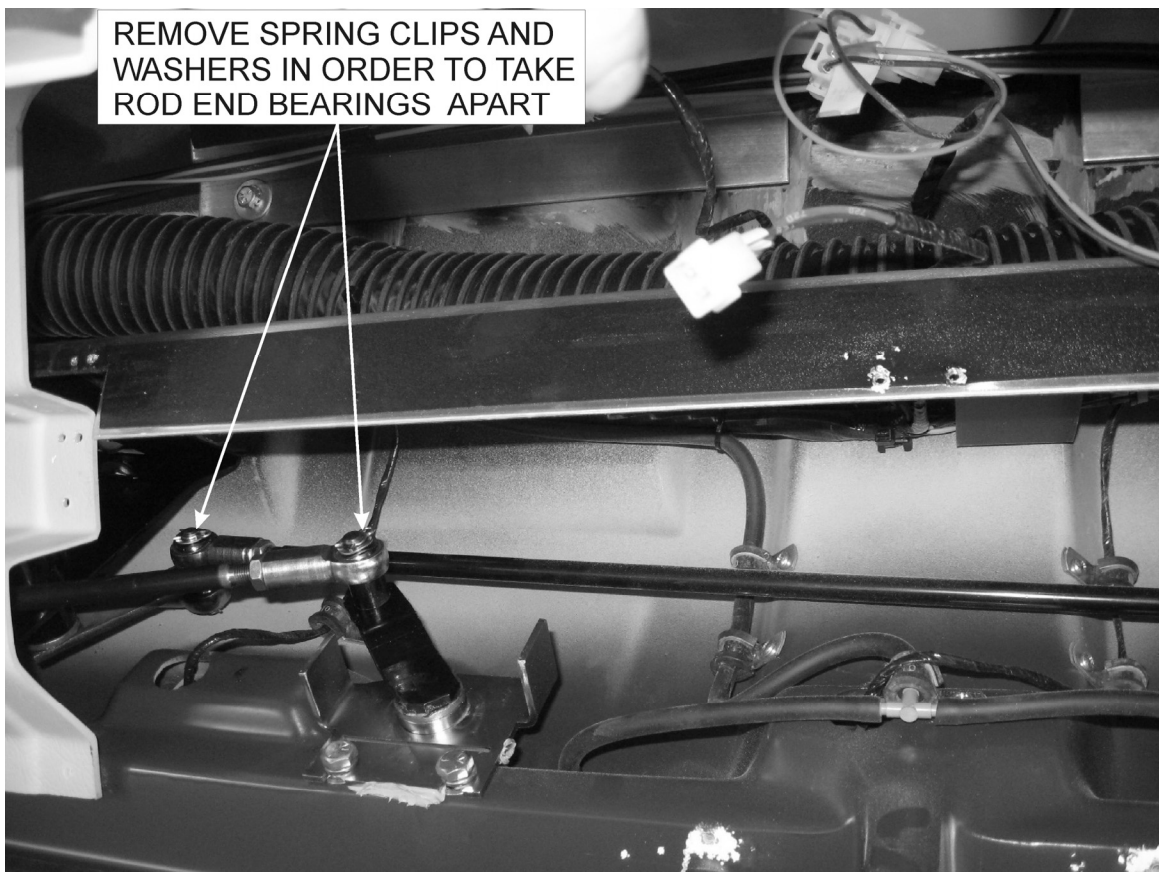

FIGURE 6
5. Remove spring clips and washers so as to take linkage rod end bearings apart (rod end bearing fitted on L.H. drive crank and rod end bearing fitted on inversion pivot) (Refer to figures 6 and 7).